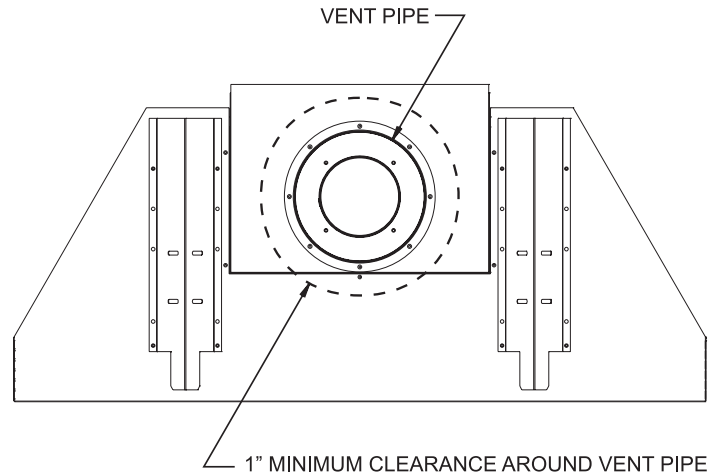

Figure 11
**Note:** Maintain one inch of clearance around vertical vent pipe. **See Figure 11.** For horizontal vent, maintain a minimum 1" clearance to the bottom and sides of the vent, and 3" clearance to combustibles above the vent pipe. **See Figure 12.**